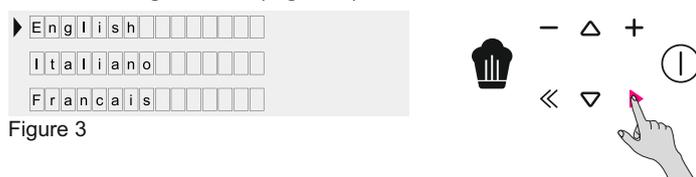

Figure 3
- Press OK to go ahead. (Figure 3)